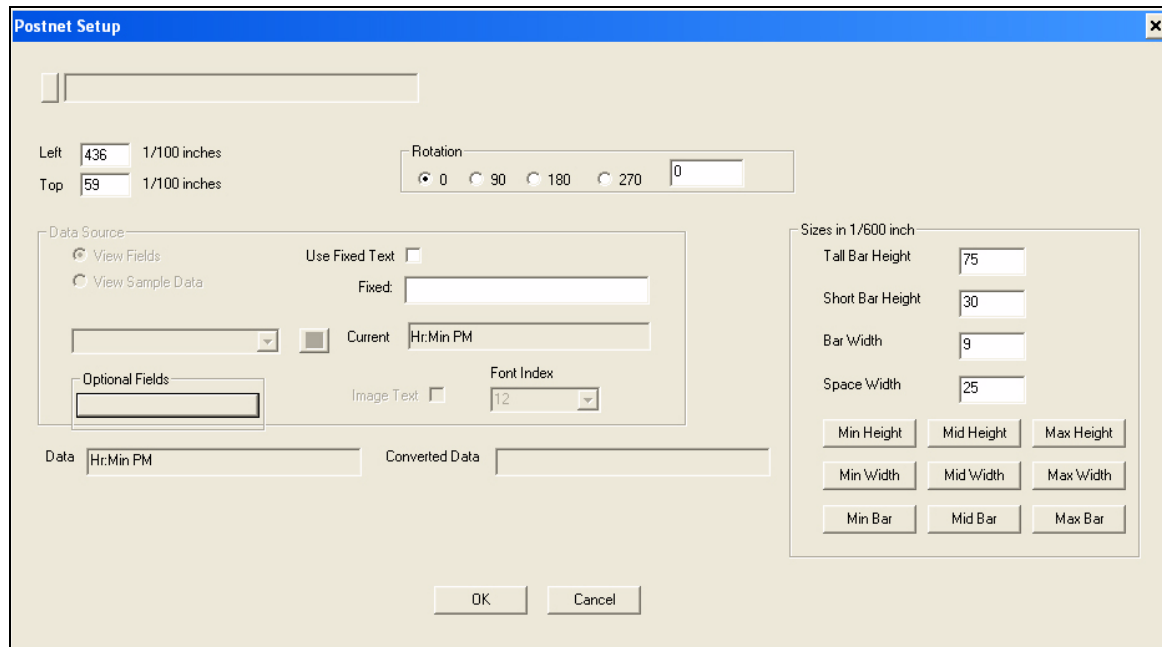

Figure 4-19: Barcode Setup Screen
- 5 When the *Barcode Setup* screen opens, select the type of barcode from the drop down menu (see Figure 4-19 on page 4-18).